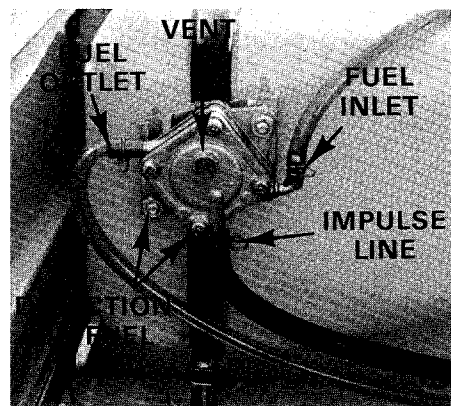

Figure 7-27
- Check the air vent on the fuel pump to be sure it is not clogged with dirt (Figure 7-27 or Figure 7-28).
1. Connect the fuel line (13) which comes from the primary fuel filter (12), to the fuel pump (16). Install a new clamp (11). (**See Fuel Lines, page 7-22, for proper routing of fuel lines.**)
NOTE: Be sure to install the fuel line (13), which comes from the primary fuel filter (12) to the INLET connection on the pump. The direction of fuel flow is indicated by the arrows on the fuel pump (**Figure 7-27**).